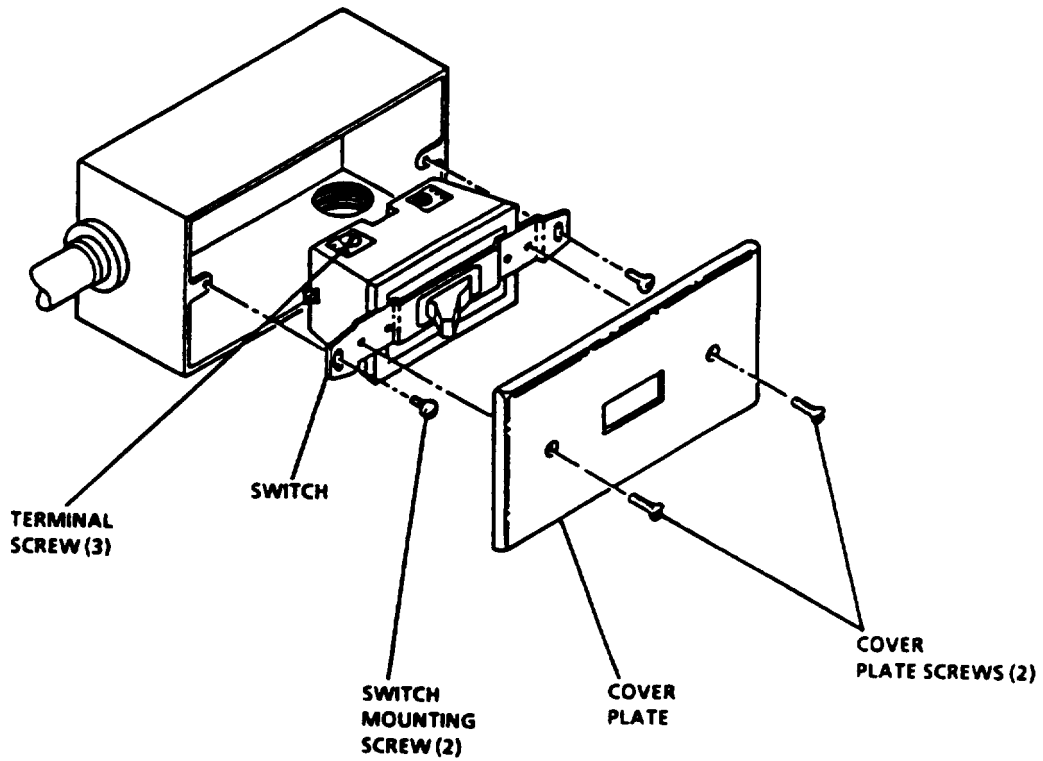

Figure 4-12. Single Switch
1. Install ice maker wall switch. See figure 4-12.
2. Install vat-air/water pump switch. See figure 4-12.